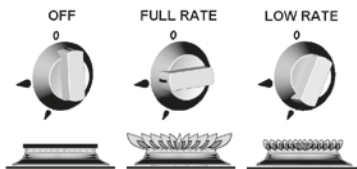

Fig. 1
3. To light: Push in the control knob and turn to full rate – see Fig.1. Hold a lighted match or taper to the burner and push the control knob in and hold. It is necessary to hold the knob depressed after the burner has ignited for approximately 10 - 15 seconds, to allow the thermocouple probe to reach temperature, before releasing the knob. Should the flame go out when the knob is released, the procedure should be repeated holding the knob depressed for slightly longer.
2. To light: Open door, push in the control knob and turn to full rate – see Fig 1 (page 154). Hold a lighted match or taper to the burner and push the control knob in and hold. The burner should ignite and the control knob should be held in for 10 -15 seconds before release.